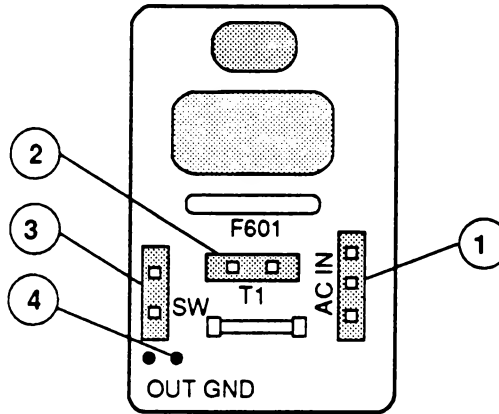

**FIGURE 5**
- AC IN (Figure 5, #1)
- T1 (Figure 5, #2)
- SW (Figure 5, #3)
6. Unsolder the green ground wire (Figure 5, #4) from the line filter board at the marking "OUT GND."